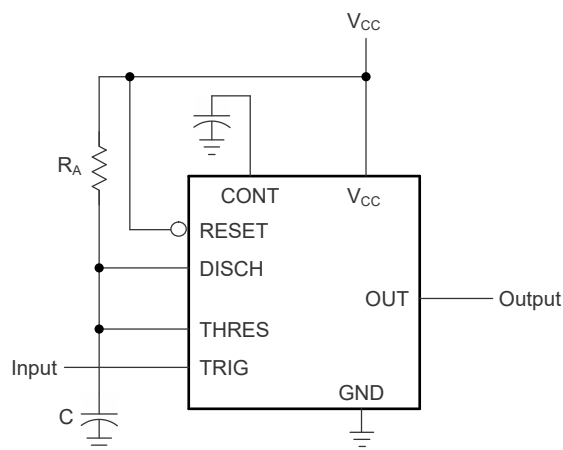

图 6-2. Circuit for Monostable Operation
(1) For conditions shown as MIN or MAX, use the appropriate value specified under *Recommended Operating Conditions*.
(2) Values specified are for a device in a monostable circuit similar to 图 6-2, with the following component values: $R_A = 2k\Omega$ to $100k\Omega$, $C = 0.1 \mu F$.
For monostable operation, 图 6-2 shows how to connect any of these timers. If the output is low, application of a negative-going pulse to the trigger (TRIG) sets the flip-flop ($\bar{Q}$ goes low), drives the output high, and turns off Q1. Capacitor C is then charged through R_A until the voltage across the capacitor reaches the threshold voltage of the threshold (THRES) input. If TRIG has returned to a high level, the output of the threshold comparator resets the flip-flop ($\bar{Q}$ goes high), drives the output low, and discharges C through Q1.
图 6-5 shows that adding a second resistor, R_B , to the circuit of 图 6-2 and connecting the trigger input to the threshold input causes the timer to self-trigger and run as a multivibrator. Capacitor C charges through R_A and R_B and then discharges through R_B only. Therefore, the duty cycle is controlled by the values of R_A and R_B .
By adjusting the length of the timing cycle, the basic circuit of 图 6-2 can be made to operate as a frequency divider. 图 6-8 shows a divide-by-three circuit that makes use of the fact that retriggering cannot occur during the timing cycle.
See 图 6-2